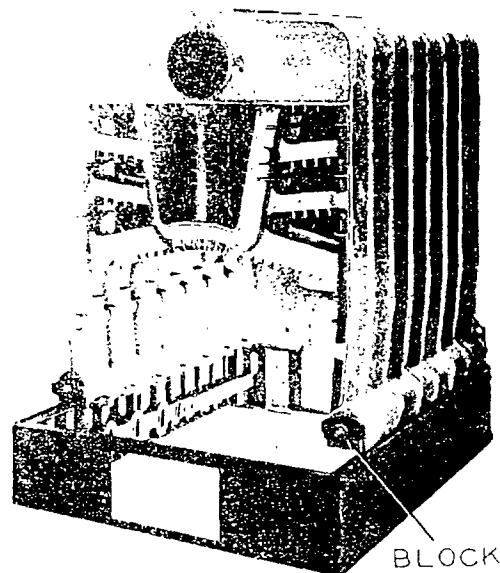

Fig. 5
5. HAND FIRED BOILER - After all sections are assembled except the Back, bolt front and rear halves of grate connecting arms together (except for 5 and 6 section sizes) with 1/2" x 1-3/4" bolts, lock washers and nuts provided. Insert grate connecting arms through openings in front and slots in rear base panels. BE SURE that connecting arms with links are to FRONT ON LEFT SIDE AND TO REAR ON RIGHT SIDE, when facing boiler from front. See Fig. 5.